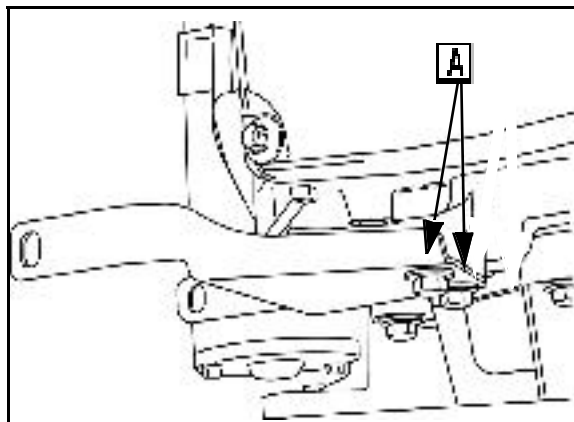

Fig. 23
**NOTE:** If further engine disassembly is required: Remove bracket screws ([A] Fig. 23) under cylinder head and remove bracket.
**NOTE:** If lower mounting bracket was removed: Install bracket (See Fig. 23).